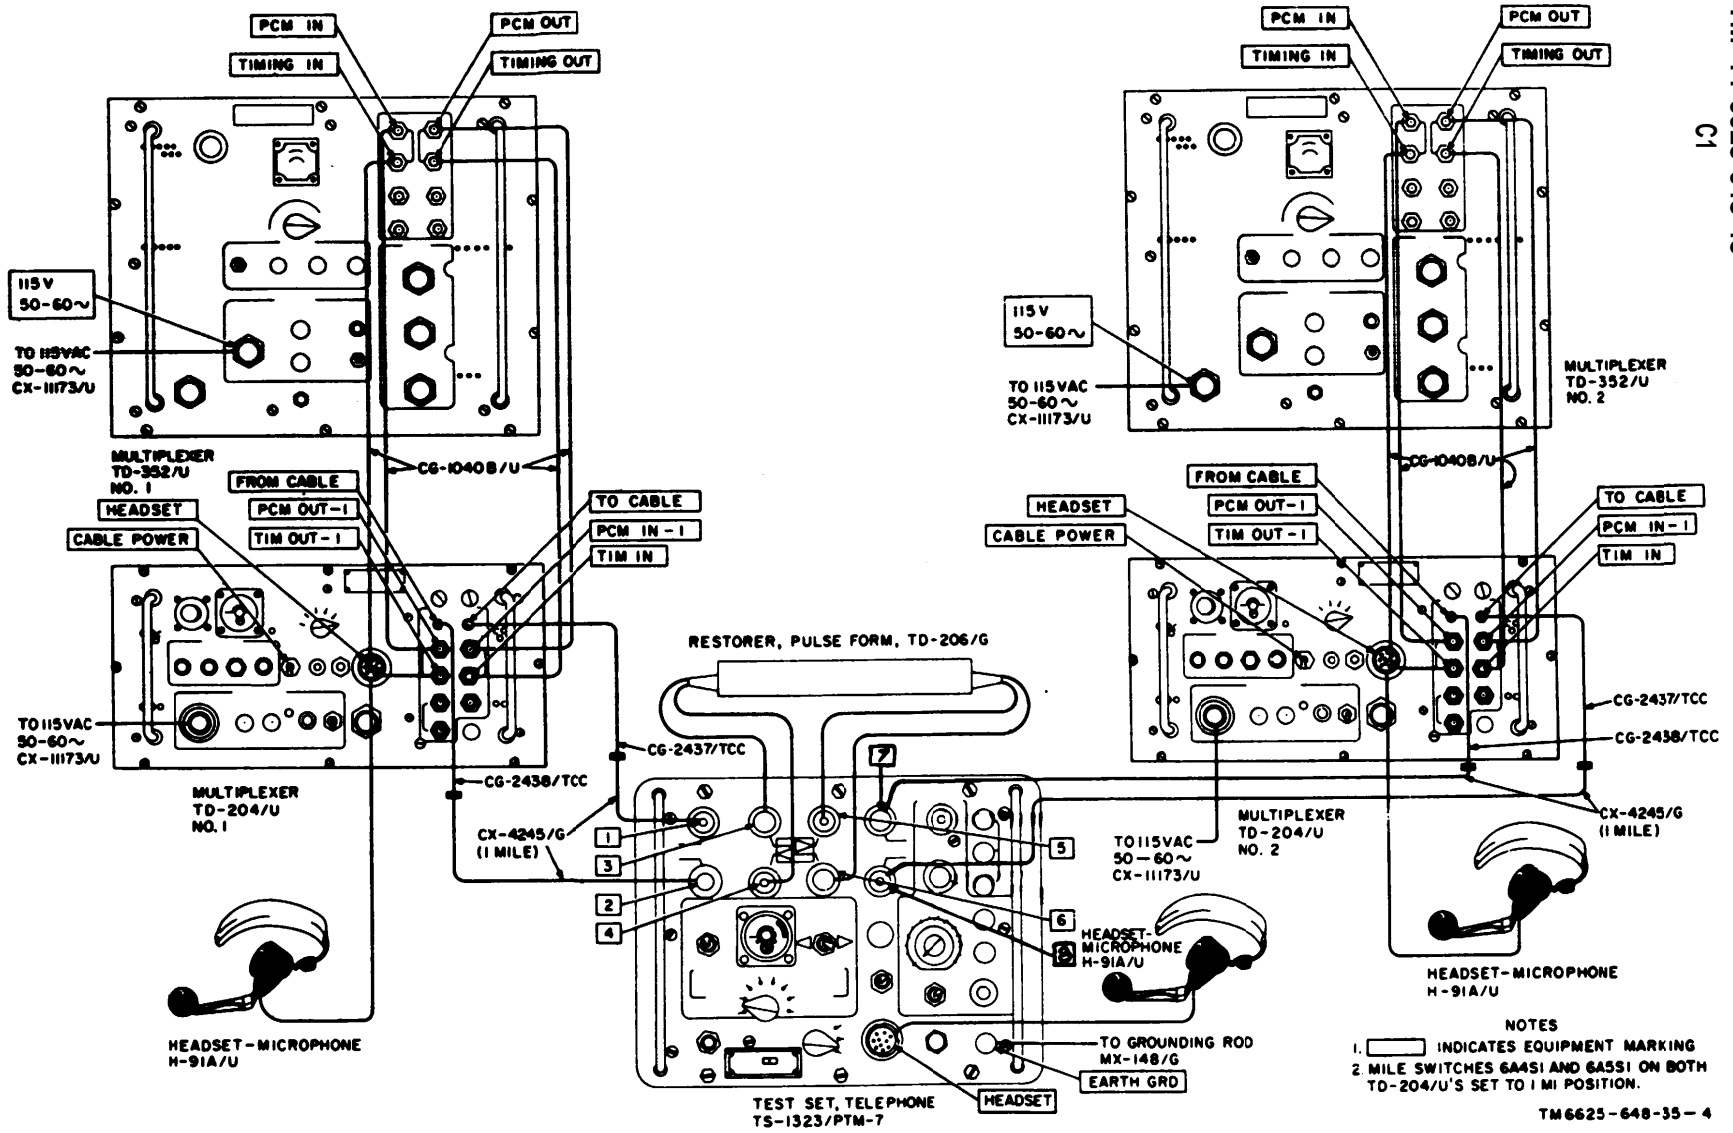

Figure 4-1. Test Set, Telephone AN/PTM-7, performance test setup, battery, order wire, and meter circuit tests.
a. To properly test the AN/PTM-7, the following inputs must be furnished: dc voltage, direct current, random pcm, order-wire signaling, and order-wire voice communication. Figure 4-1 illustrates the test equipment required to supply these inputs.
(fig. 4-1)
- (1) Multiplexer TD-352/U (2 ea).
- (2) Multiplexer TD-204/U (2 ea).
- (3) Headset-Microphone H-91A/U (3 ea).
- (4) Cable Assembly, Special Purpose, Electrical CX-4245/G or equivalent (¼-mile reel) (8 ea).
- (5) Cable Assembly, Radio Frequency CG-1040B/U (5 ft) (8 ea).
- (6) Cable Assembly, Radio Frequency CG-2437/TCC (10 ft) (2 ea).
- (7) Cable Assembly, Radio Frequency CG-2438/TCC (10 ft) (2 ea).
- (8) Restorer, Pulse Form, TD-206/G (1 ea).
*b. Test Connections and Conditions.* Connect the equipment as shown in figure 4-1.